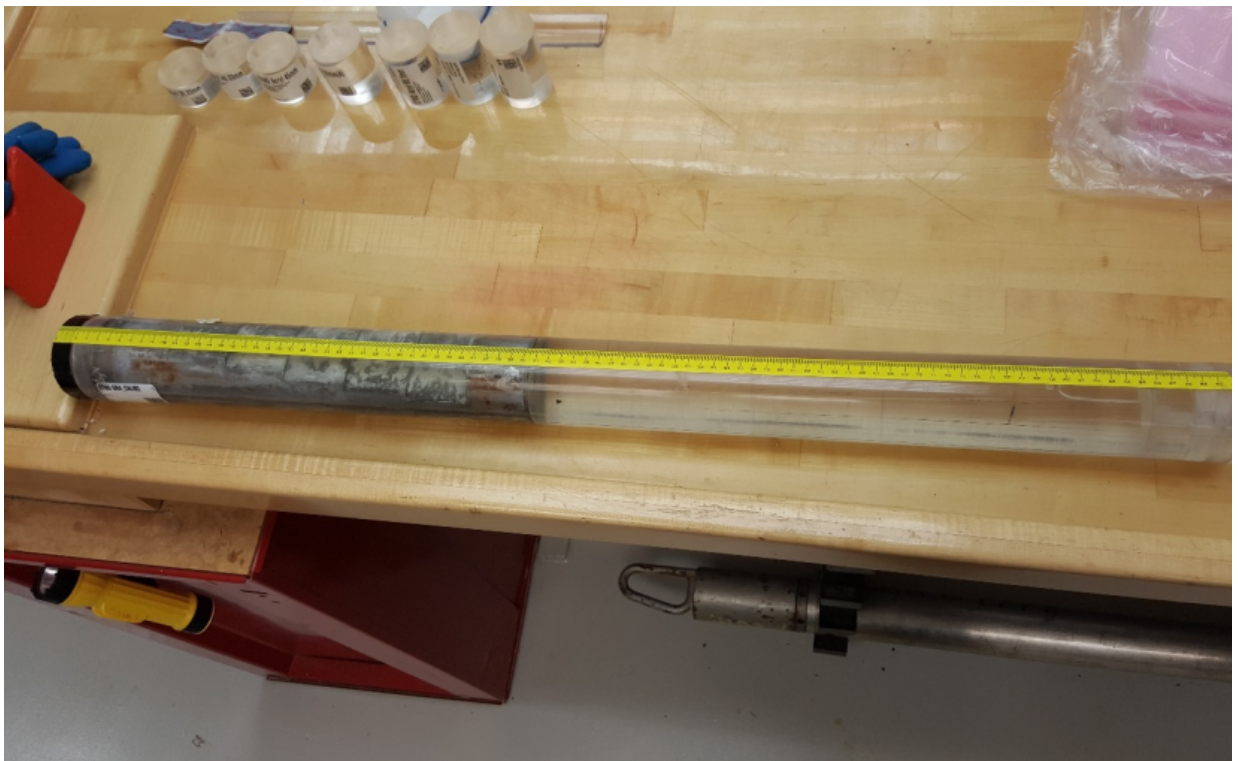
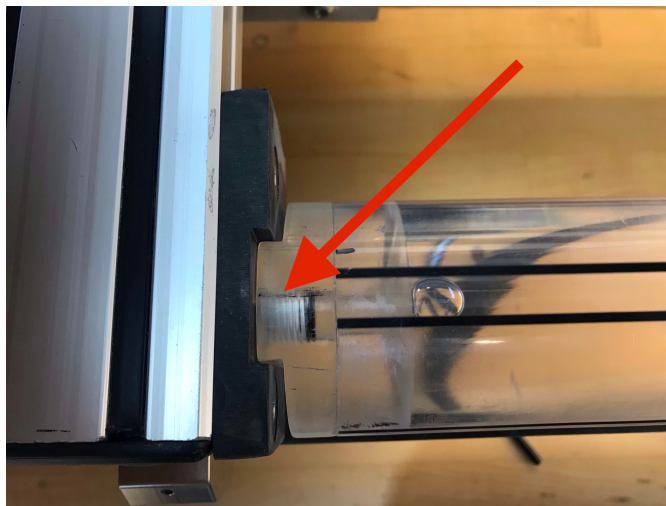

Figure 6. GRA Standard with telescoped aluminum at the top of the standard
Figure 7. Correct positioning of the Al-water standard on the track
2. Place the GRA standard (standard with the telescoped aluminum in *Figure 6*) on the track with the top (end with blue tape) nearest the sensors. The aluminum must be level, A level line is drawn on the bottom of the core. Also, make sure that the ridge of the bottom endcap fits into the groove of the pusher (*Figure 7*). You may need to loosen the screws of the black plate on the pusher, just enough for it to slide.